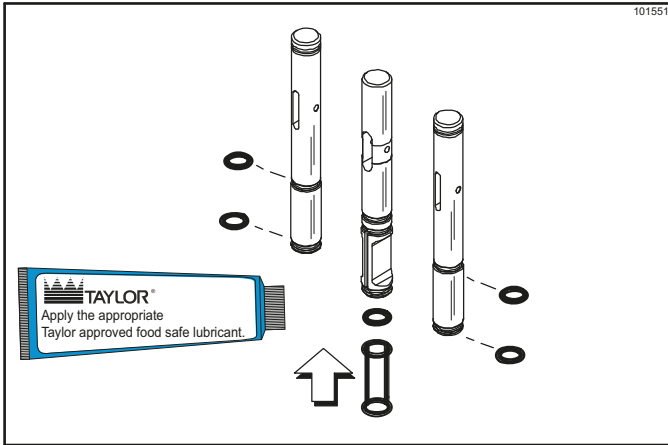

Figure 6-12
19. Slide the three O-rings into the grooves of each standard draw valve. Slide the H-ring and O-ring into the grooves of the center draw valve. Lubricate the H-ring and O-rings. (See Figure 6-12.)